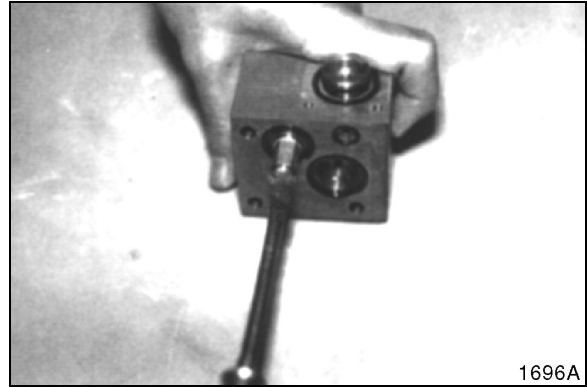

Figure 102
11. Install filter and torque to 1 kg m (7.23 ft lb). See Figure 102.